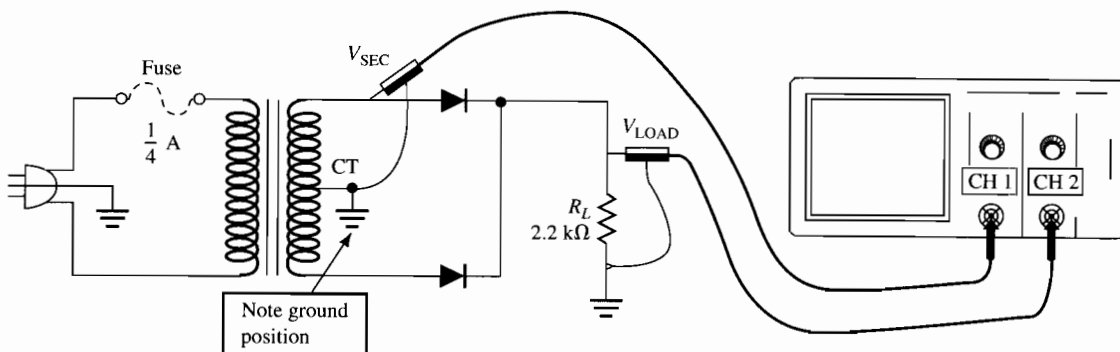

Figure 32-3
3. Disconnect power and change the circuit to the full-wave rectifier circuit shown in Figure 32-3. Notice that the ground for the circuit has changed. The oscilloscope ground needs to be connected as shown. *Check your circuit carefully before applying power.* Compute the expected peak output voltage. Then apply power and view the V_{SEC} and V_{LOAD} waveforms. Sketch the observed waveforms on Plot 32-2.